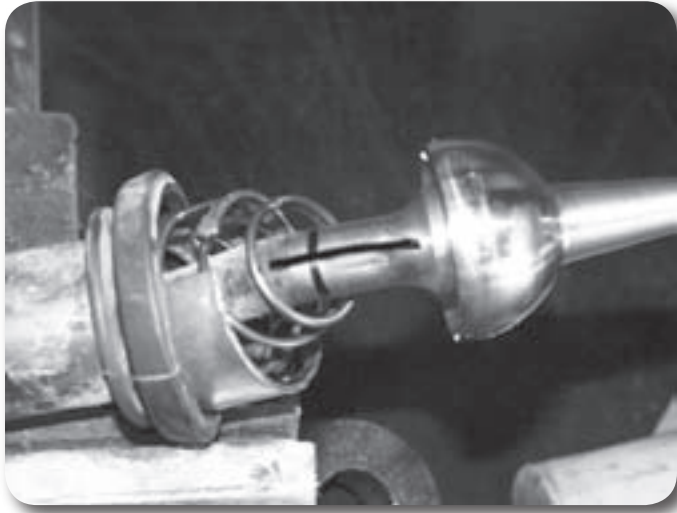

Figure 7A
18. Push down on the shift lever retaining collar and rotate it counter-clockwise. Pull the lever up free from the transmission (Figure 7A). Cover the hole in the top of the transmission with a clean rag.